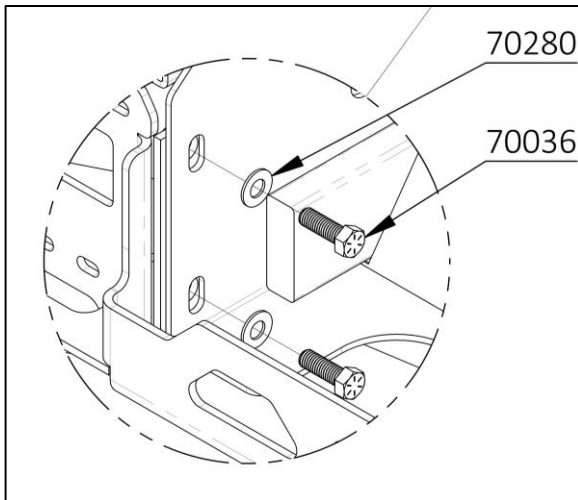

Figure 24: Inner Winch Cradle Install (1/2" Fasteners)
28. ☐ Ensuring no wiring gets pinched and that the wheel liner is inside your ALUMINESS FRONT BUMPER, lift your ALUMINESS FRONT BUMPER onto the WINCH CRADLE. Use the 1/2-13 X 1 1/2 HHCS and washers. Apply thread locker to the threads and fasten the bumper to the WINCH CRADLE. Do not tighten at this time. **See Figure 24.**